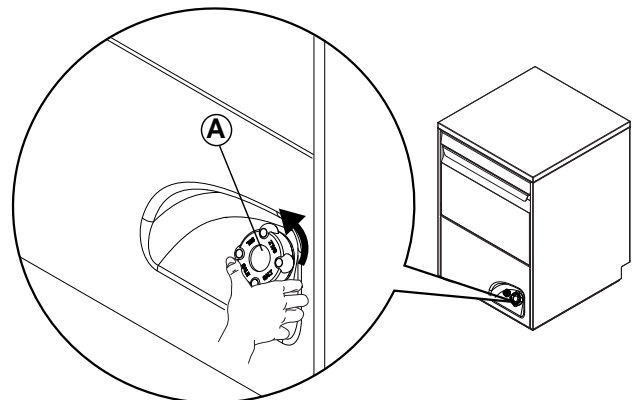

Figure 20
- Unscrew cap "A" (Figure 20) of the salt container, turning it anticlockwise.